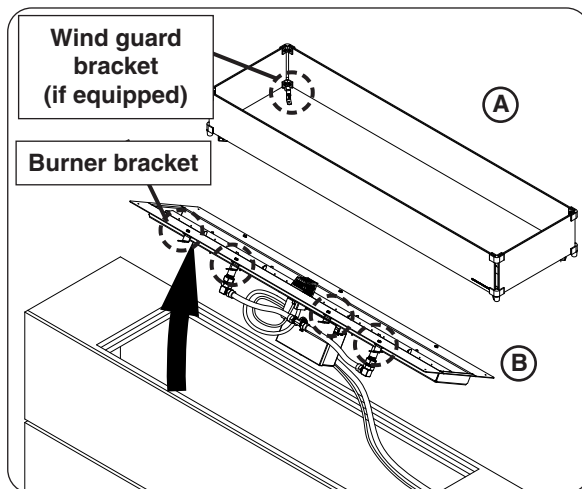

Fig. 42-1 Remove wind guard, then burner assy
1. If equipped remove wind guard from the burner. Use a $\frac{5}{16}$ " nut driver to unfasten the four screws found on the burner assembly. See Fig. 42-1, A.
2. Use a $\frac{5}{16}$ " nut driver to partially unfasten the eight screws found on the burner assembly. Then remove the burner and set it off to the side. See Fig. 42-1, B.